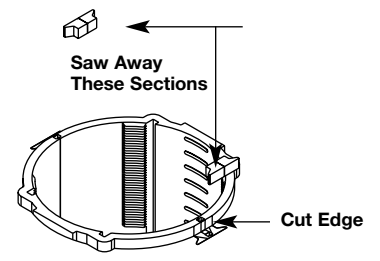

Figure 3
1. Cut away flanges at screed level (see Figure 3).